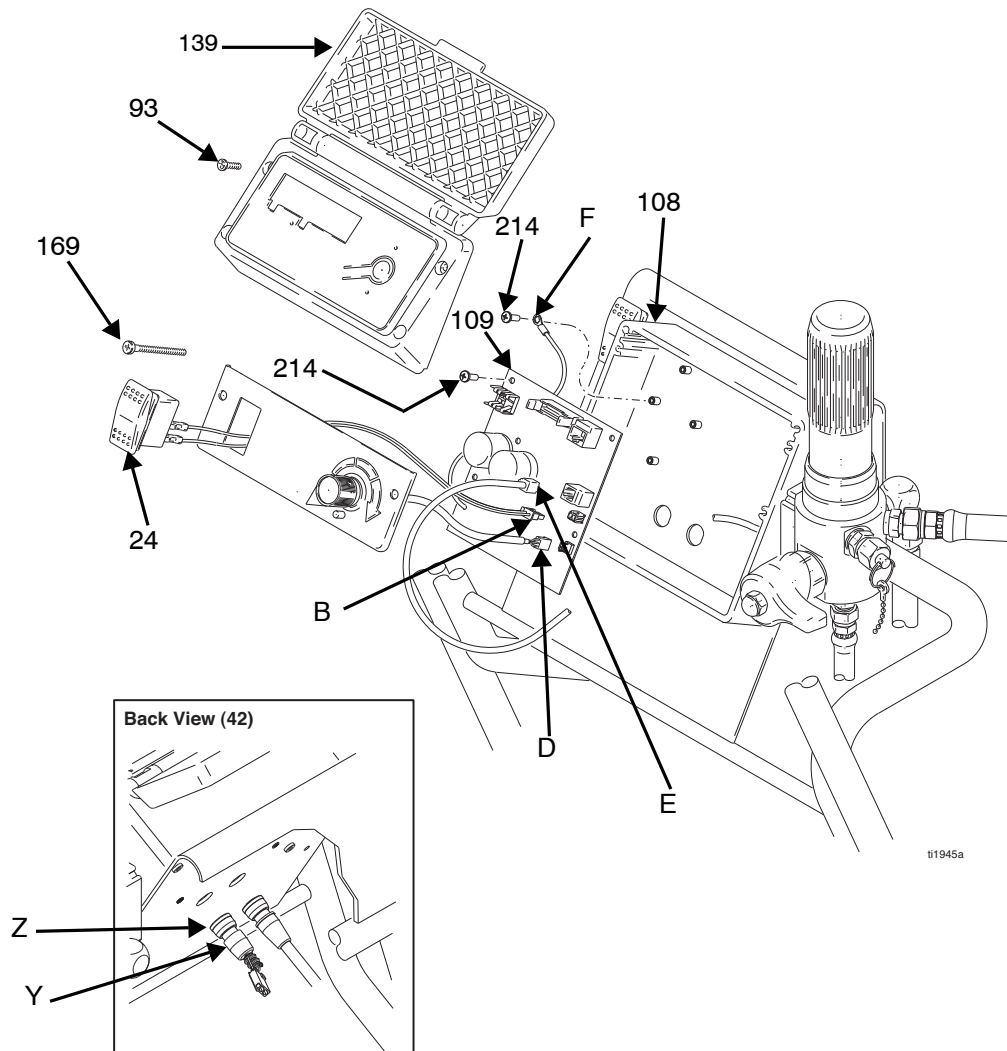

FIG. 6
2. Fig. 6. Remove four screws (93) and display/cover (139).
3. Pull display connector wings (A) open on PC board and pull display connector out.
4. Disconnect ON/OFF switch connector (B) from PC board.
5. Press in on two retaining tabs on each side of ON/OFF switch (24) and remove switch.
2. Fig. 6. Remove four screws (93) and display/cover (139). Pull display connector wings open on PC board and pull display connector out.
- Lead (D) from potentiometer.
- Lead (E) from transducer.
- Remove ON/OFF switch (24) connector (A).
4. Fig. 6. Remove six screws (214) from control board (109) and green ground wire.
5. Remove two connectors (Y) at backside of pressure control. Remove jam nuts (Z) and control board (109).
1. Fig. 6. Install control board (109) and jam nuts (Z). Install two connectors (Y) at backside of pressure control.
2. Install green ground wire and control board (109) with six screws (214).
- Connect ON/OFF switch (24) connector (A).
- Lead (E) to transducer.
- Lead (D) to potentiometer.
4. Fig. 6. Push display connector into PC board close display connector wings on PC board. Install display/cover (139) with four screws (93).
3. Disconnect lead (E) from control board (109).
4. Remove two screws (201) that connect control housing (108) to filter housing (200e). From inside of control box, pull transducer connector through control housing (108).
1. Fig. 6. Install o-ring (200r) and pressure control transducer (200p) in filter housing (200e). Torque to 30 36 ft-lb.
2. Install transducer cable through control box. Install filter housing and spacer to control box with two screws (201).
3. Connect lead (E) to motor control board (109).
4. Install display/cover (139) with four screws (93).
3. Disconnect lead (D) from control board (109).
4. Loosen set screws on potentiometer knob (19) and remove knob, shaft nut, lockwasher and pressure adjust potentiometer (81).
5. Remove seal (148) from potentiometer (81).
1. Install seal (148) on potentiometer (81).
2. Fig. 6. Install pressure adjust potentiometer (81), shaft nut, lockwasher and potentiometer knob (19).
- a. Turn potentiometer shaft (81) clockwise to internal stop. Assemble potentiometer knob (19) to strike pin on plate (23).
3. Connect lead (D) to control board (109).